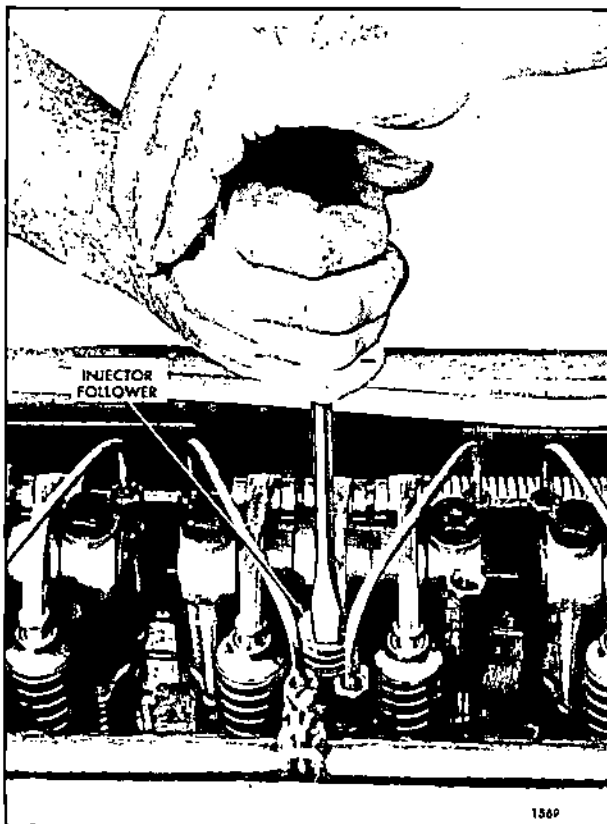

Fig. 1 - Locating a Misfiring Cylinder
4. Hold the No. 1 injector follower down with a screw driver, Fig. 1, to prevent operation of the injector.